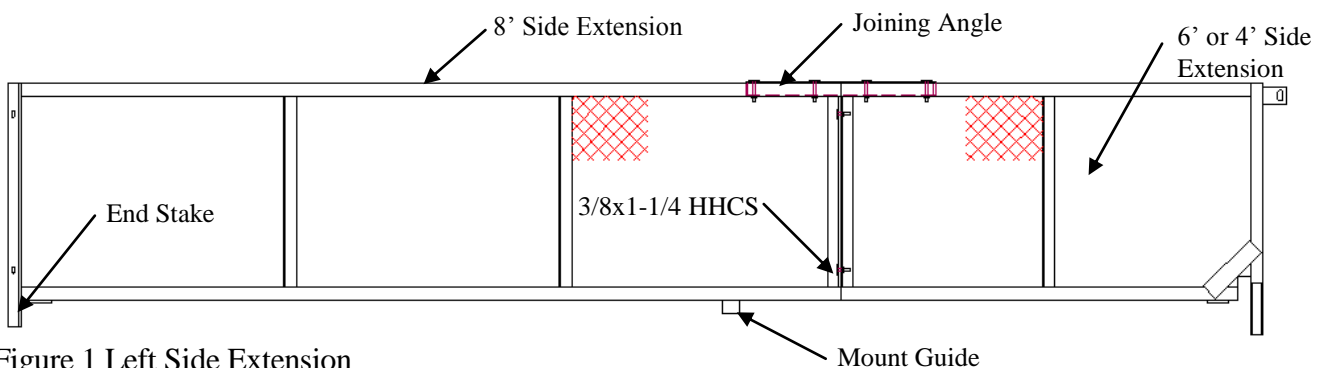
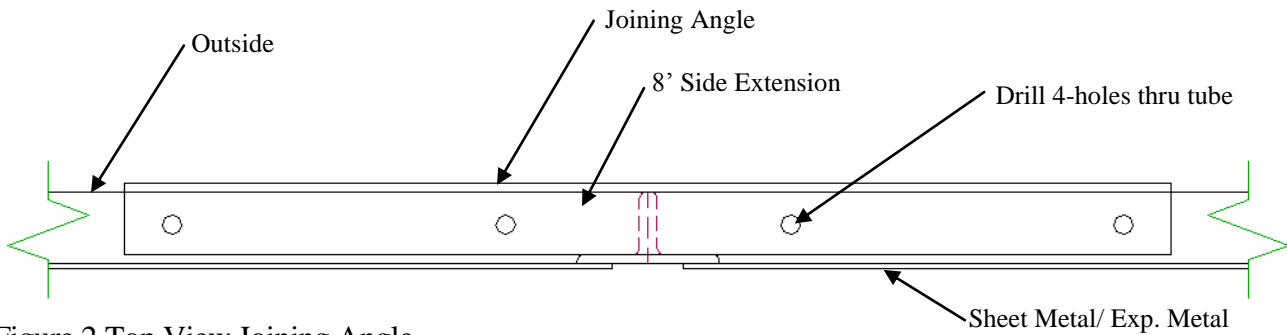

Figure 1 Left Side Extension
Figure 2 Top View Joining Angle
Locate the 8' left hand side extension; this extension has the end stake on the left when placed with the sheet metal or expanded metal opposite side (figure 1). Install this extension placing the end stake into the front 2x2 tube. The mount guide will fit over the top of the 3x2 bed tube. Locate the 6' (14' trailer) or the 4' (12' trailer) left side extension. Place the end stake into the rear 3x2 tube. Secure this extension to the 8' extension using (2) 3/8x1-1/4 HHCS, (4) 3/8 flat washers, (2) 3/8 lock washers and (2) 3/8 hex nuts. Clamp the joining angle to the top of the 8' and 6' (or 4') extensions (figure 2). Drill (4) 13/32" holes through the top tubes of the extensions.